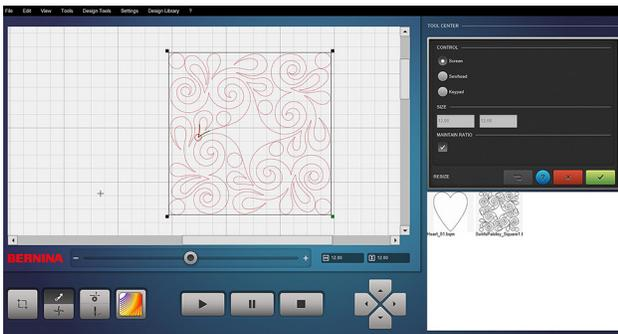

Fig. 24
1. Select Screen under Control. Four corner points will appear around the design (Fig. 24); the lower-right node is the green active node. To select a different node as the resizing point, touch and hold (or right-click) on the desired node until it turns green.